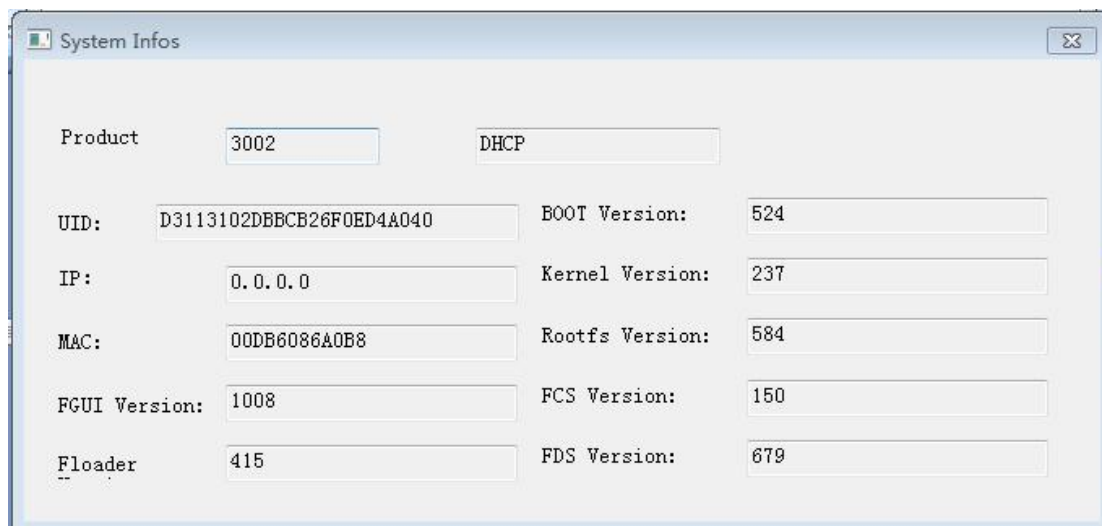

Fig. 4.5-5 View the kernel version
(4) Click the "Update Kernel" in the "system" subtab. Wait until the kernel update is finished.
(5) Power off, then power on to restart the FBox device.
(6) Go into the "Download" dialog and select the "System" subtab Once again. Click "Get HMI Infos" and view the kernel version to confirm that the version is updated to 237 or above, as shown in Fig. 4.5-5.